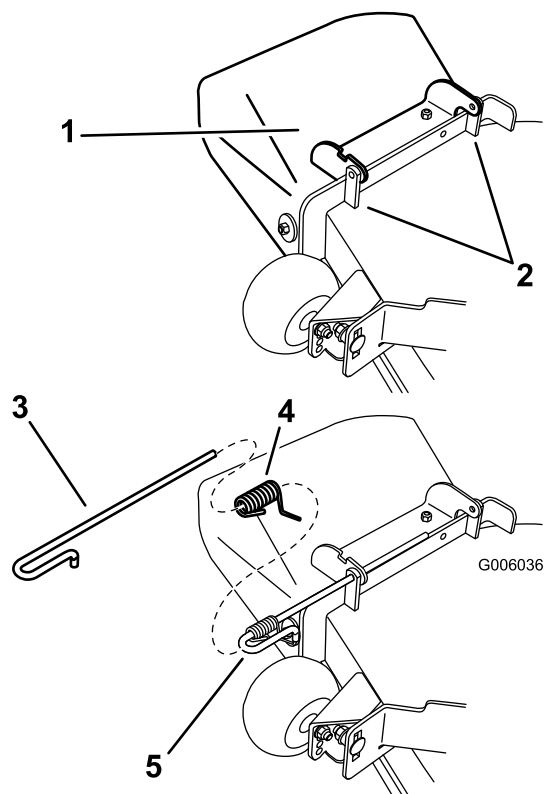

Figure 74
1. Disengage the spring from the notch in the deflector bracket and slide the rod out of the welded deck brackets, spring, and discharge deflector (Figure 74). Remove the damaged or worn discharge deflector.
2. Position the new discharge deflector assembly with the bracket ends between the welded brackets on the deck as shown in Figure 74.